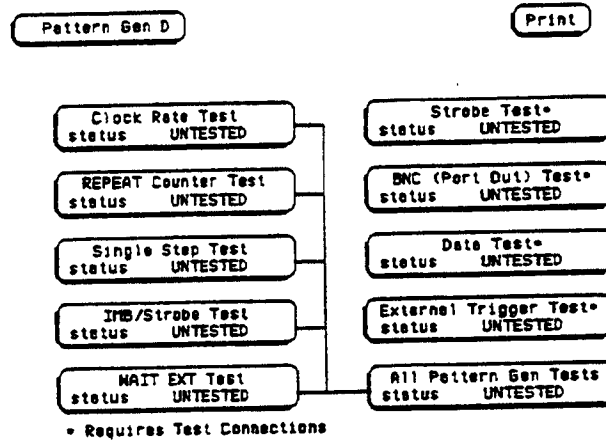

Figure 6-7. Main Test Menu
- e. Figure 6-7 is the main self test menu. Self tests can be run individually by touching a specific test field, or all tests automatically one time by touching "All Pattern Gen Tests". When "All Pattern Gen Tests" is run, the test status will change to "TESTED". When individual tests are run, the status will change to either "PASSED" or "FAILED".